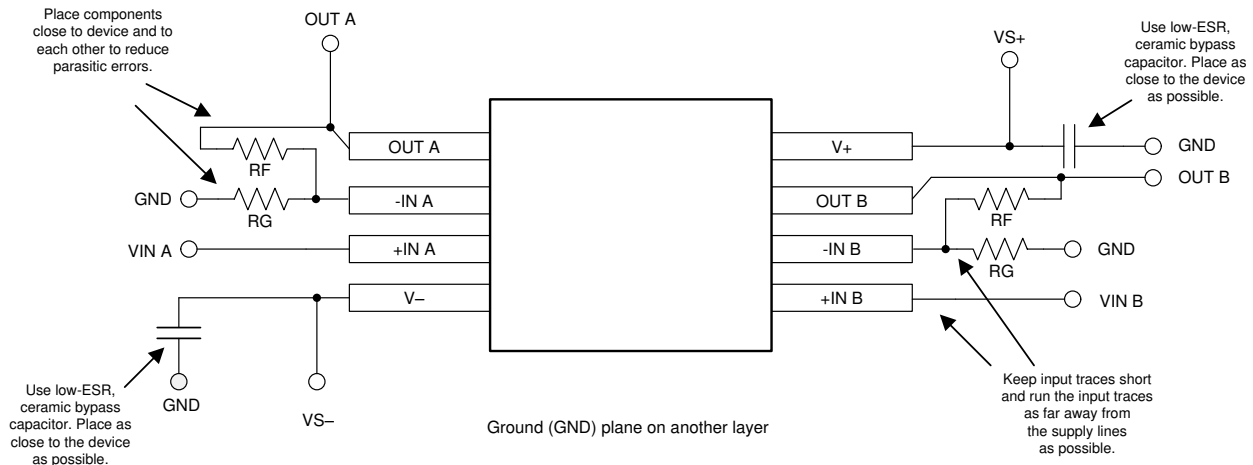

图 37. Layout Example
- Place the external components as close to the device as possible. As shown in 图 37, keeping RF and RG close to the inverting input minimizes parasitic capacitance on the inverting input.